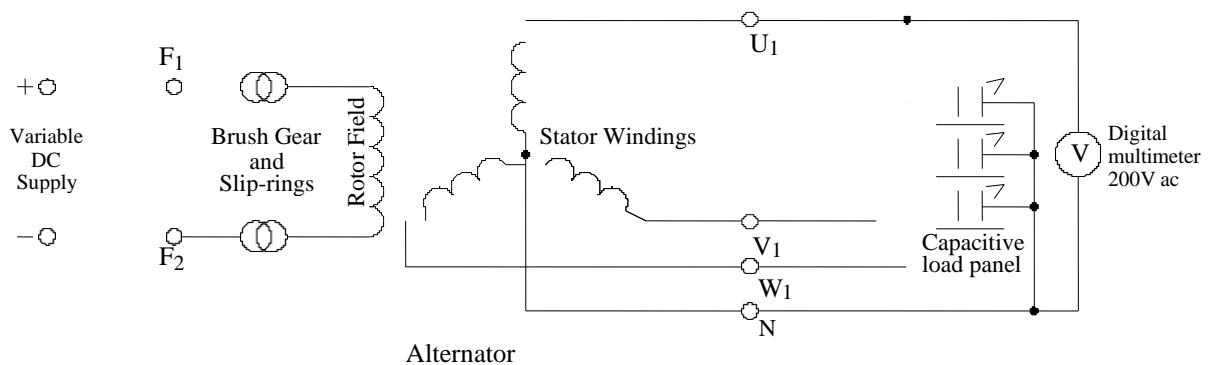

Figure 3
1. Connect the alternator as shown in figure 3. That is, replace the lamp load panel with the capacitive load panel.